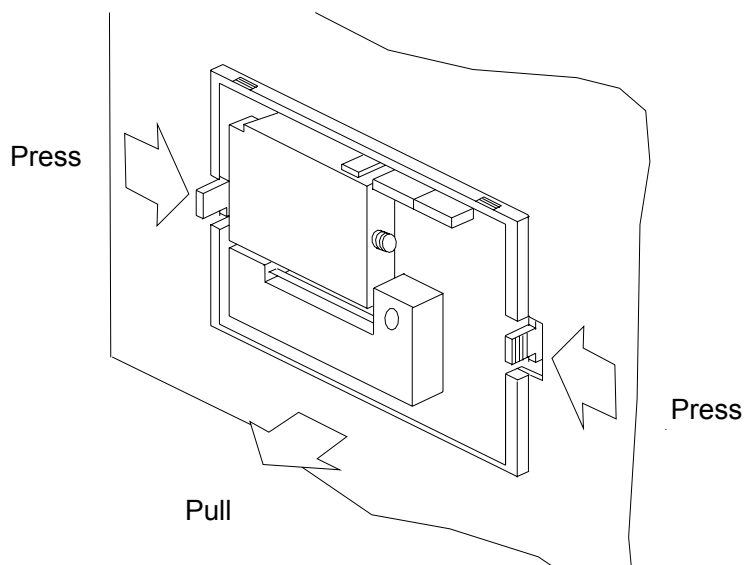

Fig.8.2
- 2) Remove the whole printer from the panel. Please nip the movable tongues on the two sides with fingers according to Fig.8.2, remove the whole printer from the panel gently. **Note: Before removing the printer, make sure to turn off the power to the printer.**